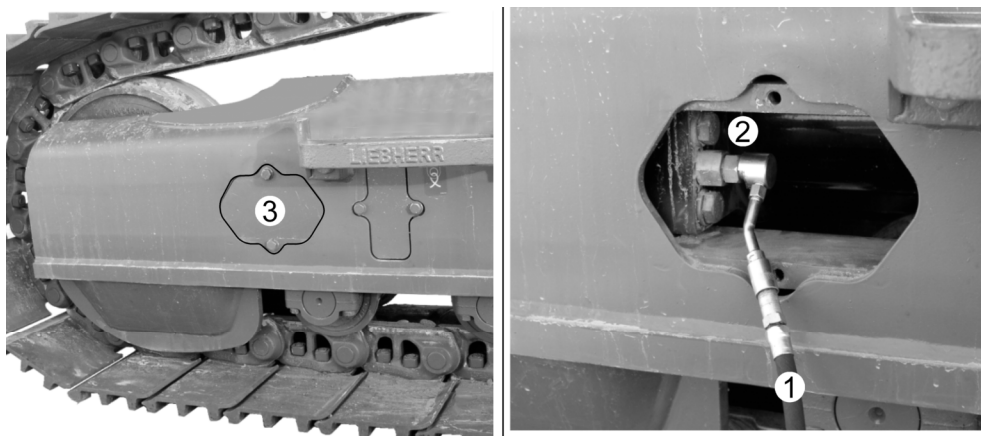

Fig. 5-57 Retensioning the crawler
- ▶ Carefully unscrew lubricating nipple **2** (siehe Fig. 5-57) by several thread pitches until the grease oozes out of the nipple's annular groove.